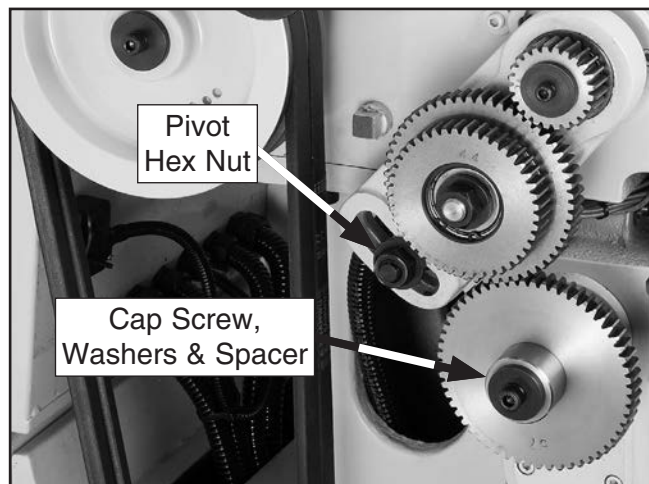

Figure 78. End gear components.
3. Remove the cap screw, lock washer, and flat washer from the bottom 57T end gear (see **Figure 78**).
4. Loosen the pivot arm hex nut shown in **Figure 78**, then swing the pivot arm to the left so that 44T/56T gears are away from the 57T gear. Hand tighten the hex nut to keep the arm in place.